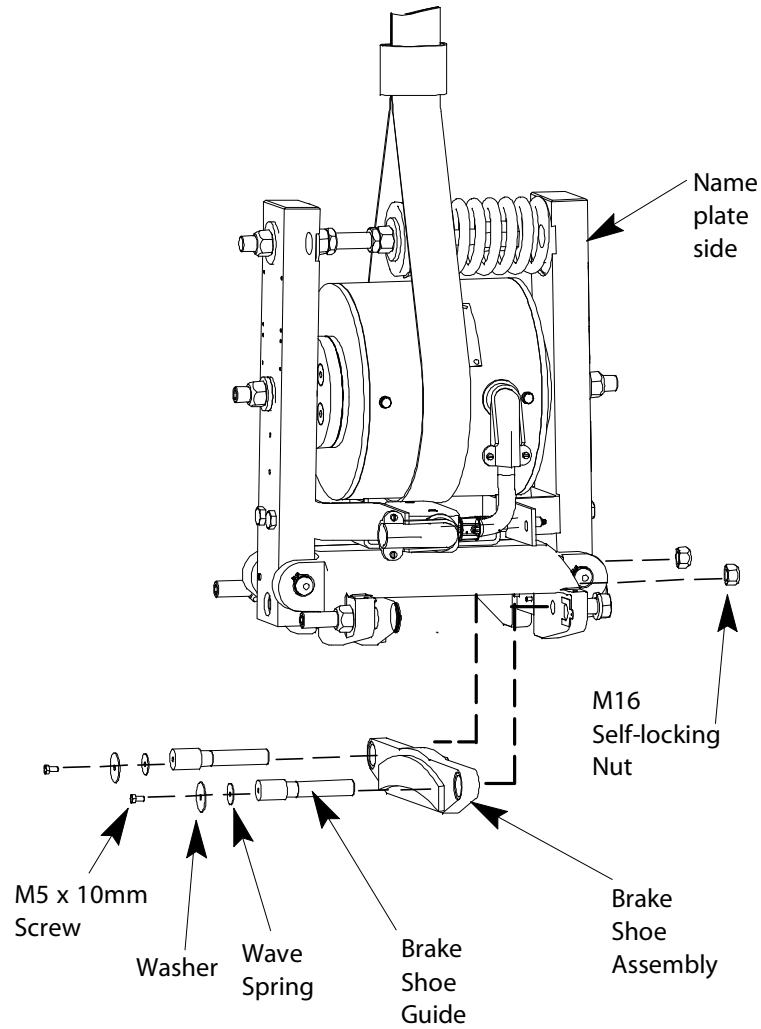

Figure 3 - Brake Shoe Removal
8. Use a choker arrangement to install the hoisting strap around the coil. See Figure 3 on page 13.
10. Remove the following items from the sheave brake. See Figure 3.